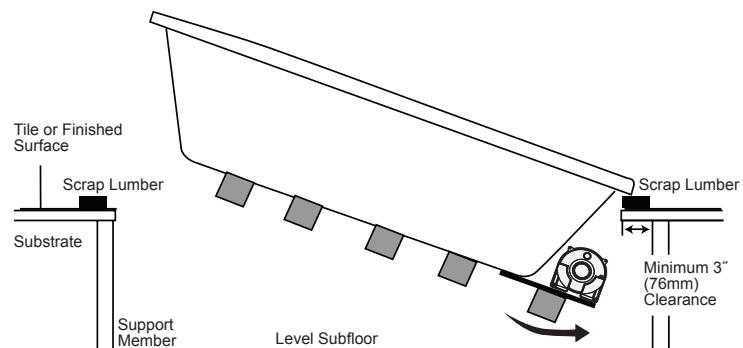

Figure 9
- 7** Place a piece of scrap lumber on each of the ends of the cutout – this will be used as a temporary support prior to lowering the bathtub fully into the opening (Figure 9).